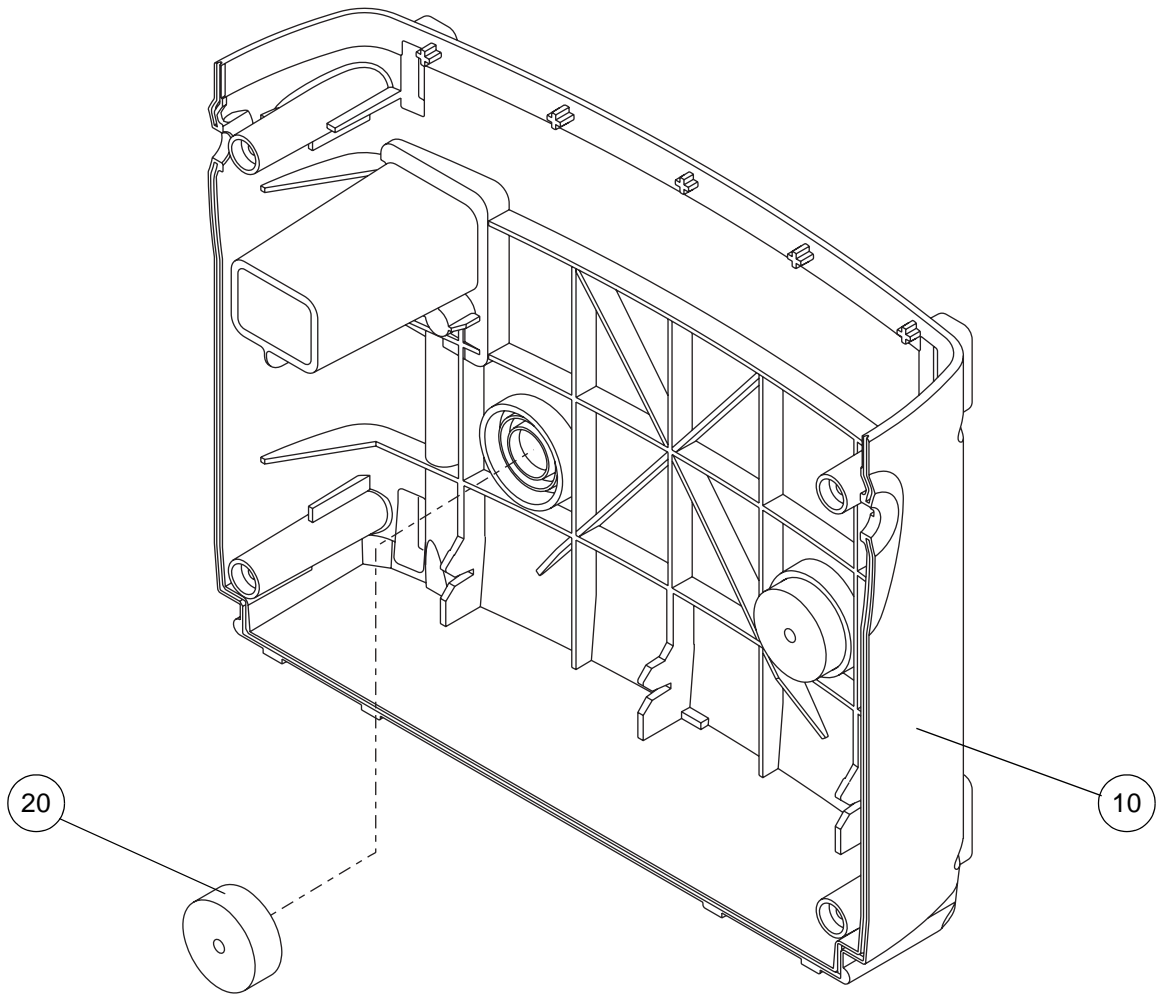

Figure 62 - Replacing the Rear Case
- 40.3 Lay the new rear case (Fig 62, Item 10) down with the inside surface pointing upwards.
- 40.4 Stick the two compressor support rubbers (Fig 62, Item 20) onto the front case.